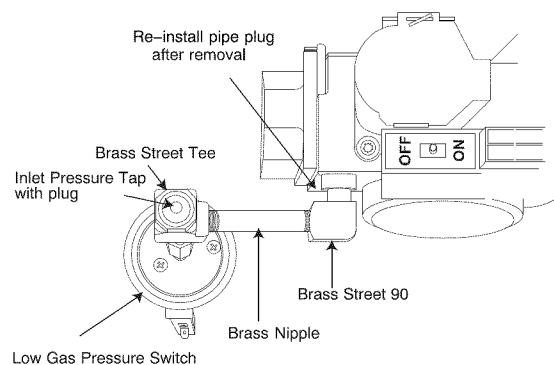

Fig. 10 - Alternate Low Gas Pressure Switch - 17 1/2-in. (445 mm) and wider furnaces
If the vent pipe does not pass between the inducer and burner assembly, or the furnace is wider than a 14 3/16-in. (360 mm) wide casing, remove the switch as follows (See Fig. 10.):
1. Remove Low Gas Pressure Switch, brass street tee, brass nipple and brass street 90° elbow from the gas valve inlet pressure tap. See Fig. 10.